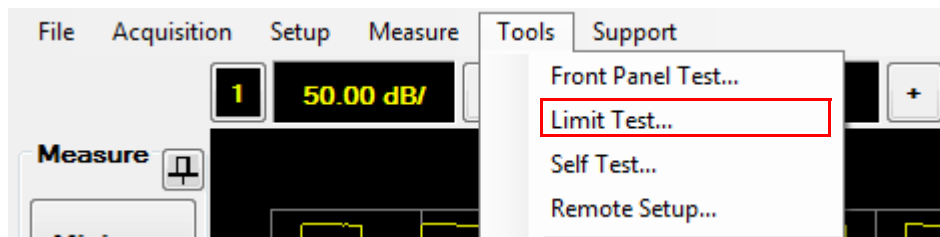

Figure 2-126 Limit test... selection in the Tools menu
- 1 Select **Tools > Limit Test...** on the toolbar as shown in Figure 2-126.